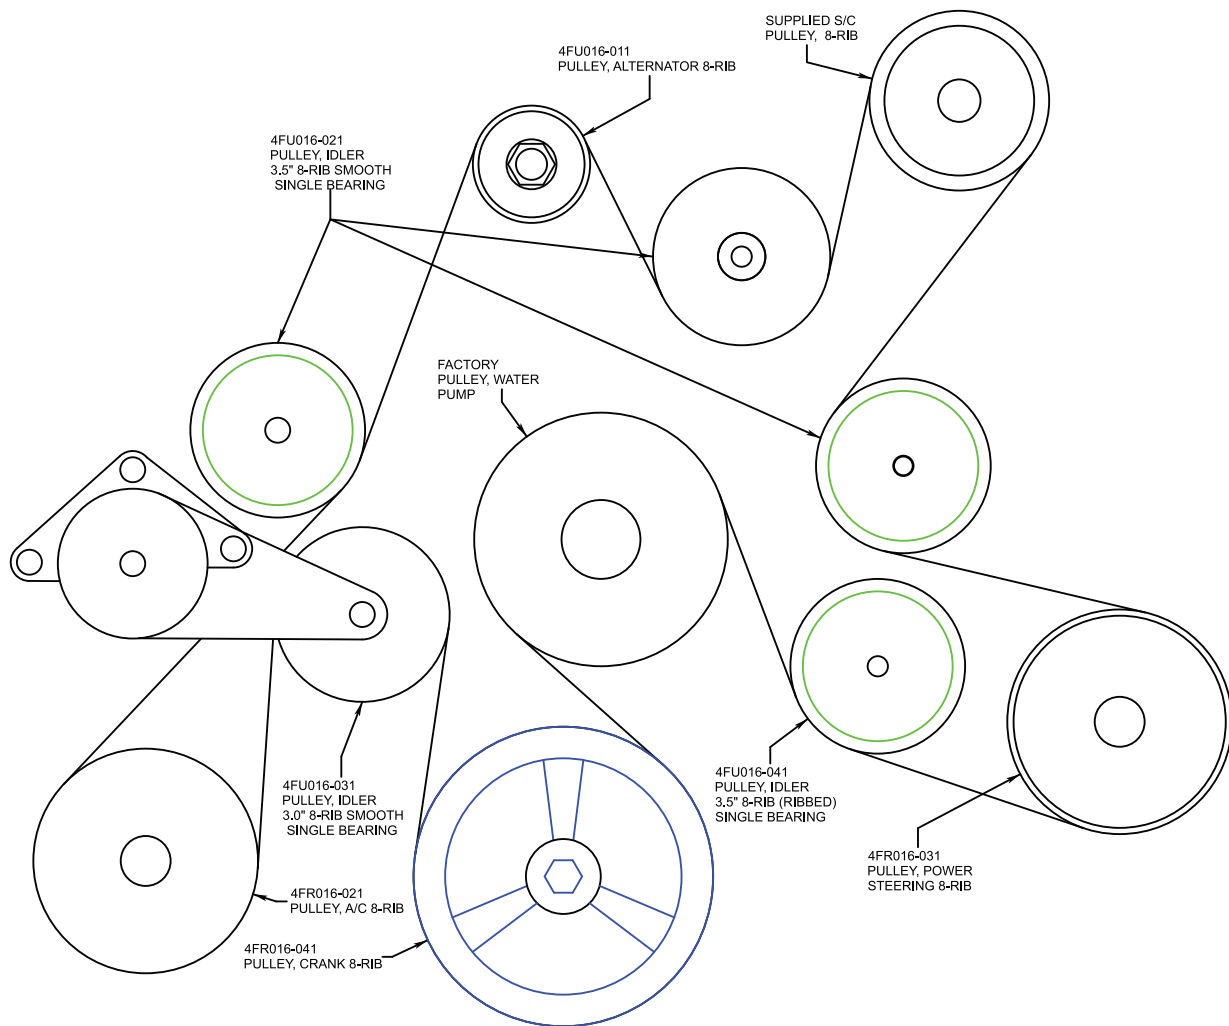

Fig. 6.1-c
- J. Loosely install the 8-rib drive belt provided using Fig. 6.1-c for belt route reference. Not all pulleys are installed at this time.
NOTE: See Fig. 6.1-d for the next few steps.